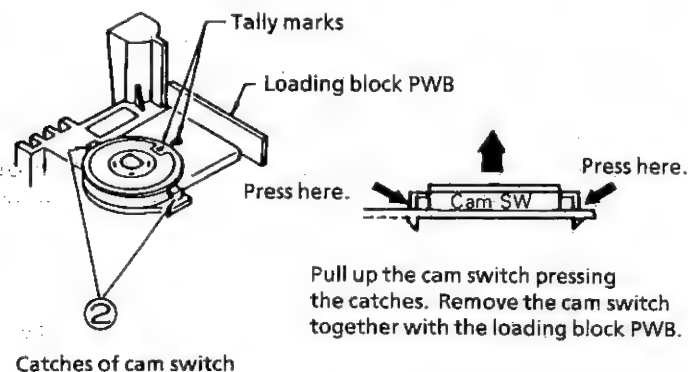

Figure 1-69.
1. Unsolder the leads ① from the loading motor.
2. Unlock the left and right catches ② of the cam switch off the loading block. Take out the cam switch and loading block PWB (See Figure 1-69).